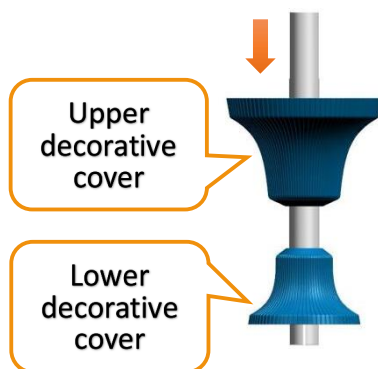

Figure. 3.2
② Unscrew two M4*10 hexagonal screws near the upper end of the extension tube, and install the lower decorative cover from the upper end to the lower end, and then install the upper decorative cover (see Figure 3.2)